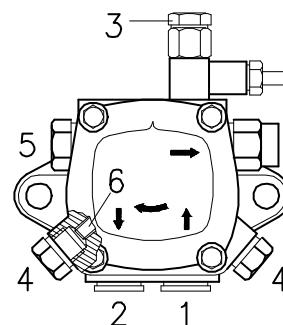

Fig. 21
## 7.3 Pump (Fig. 21)
- In order for self-priming to take place, one of the screws 3) (Fig. 21) of the pump must be loosened in order to bleed off the air contained in the suction line.
In order to adjust pump pressure, use the relevant screw 5) (Fig. 21 pag. 20)